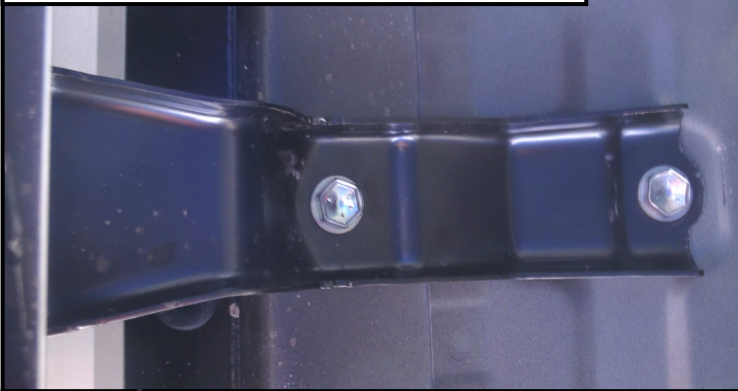

Figure 1 Driver side front rocker panel bracket cap screws
2. Starting at the driver side front use 12mm socket to remove the two rocker panel bracket hex cap screws. **(Figures 1 & 2)**